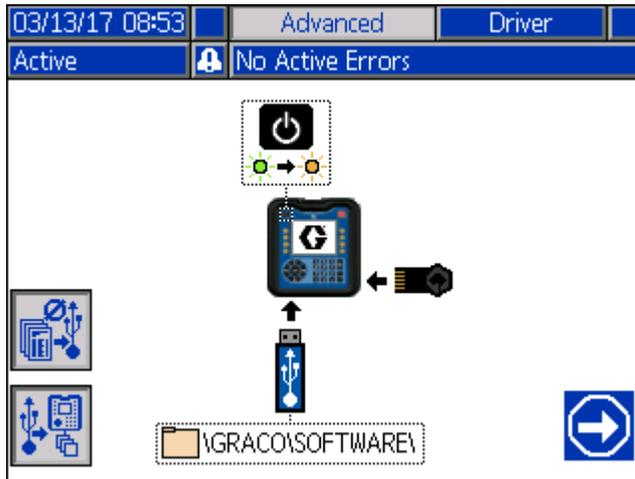

FIG. 7: Software Update Start Screen
Press the soft key (A) next to the  icon on the System Software screen to begin. Then follow the on-screen prompts on the Software Update Start screen shown in **Figure 7**.